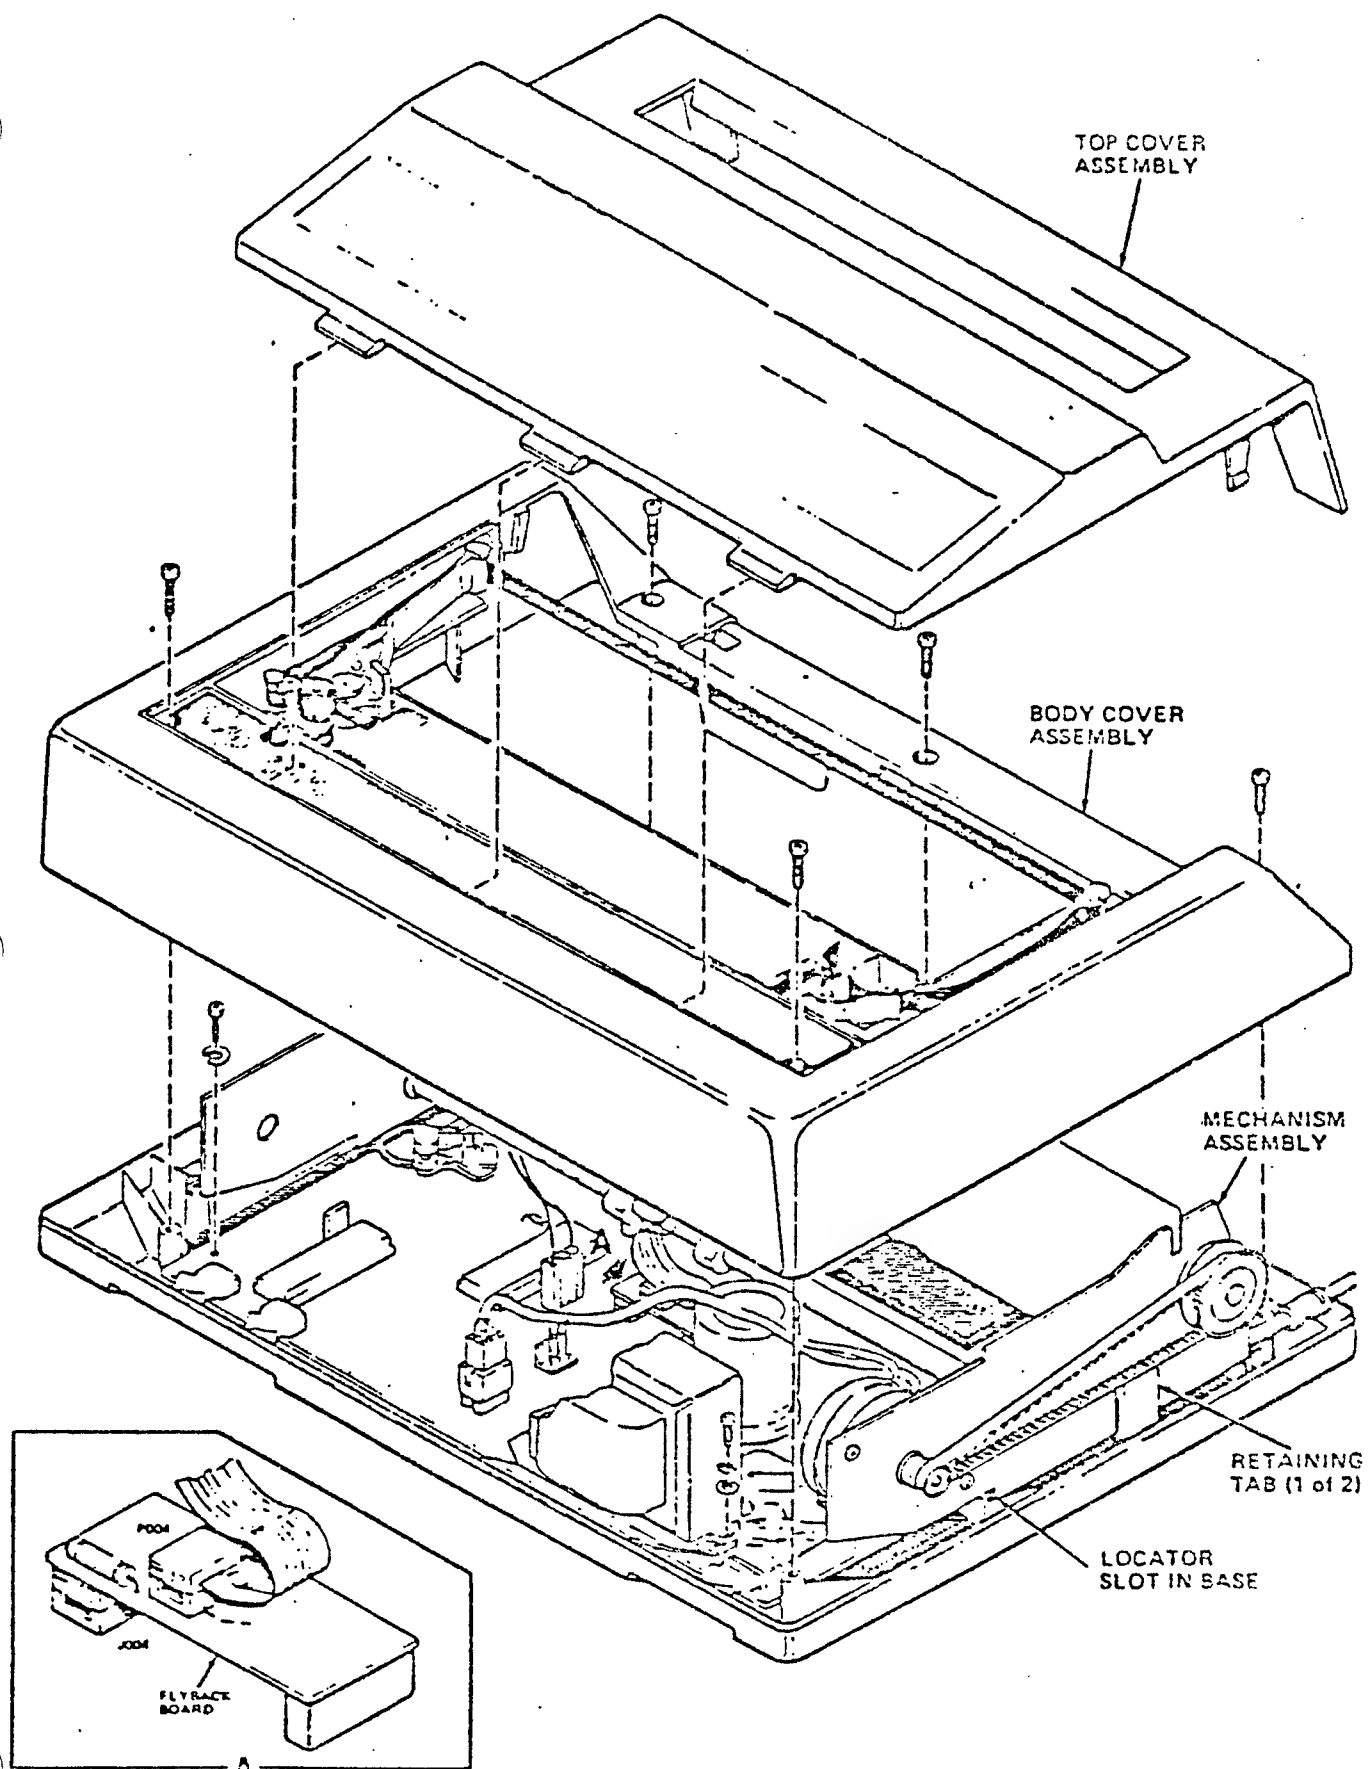

Figure 5-1 MECHANISM ASSY. REPLACEMENT
5.2 MECHANISM ASSEMBLY (Reference Figure 5-1)